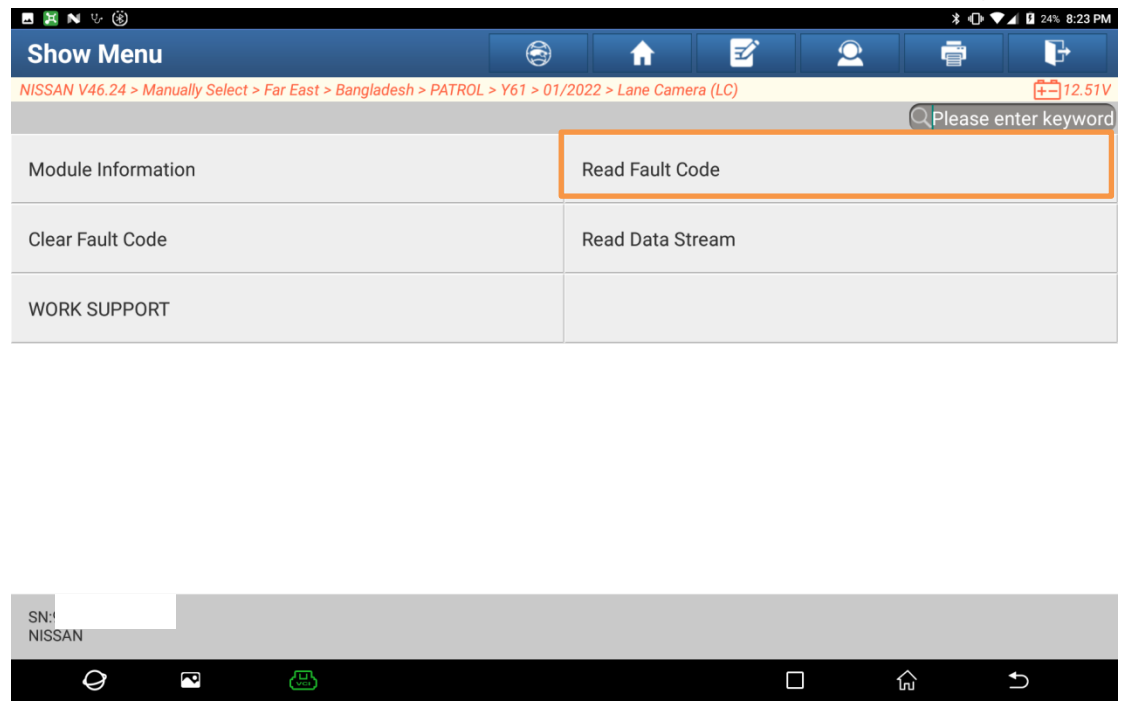

Figure 20
20. Return to the previous menu and click [Read Fault Code]. See Figure 20.